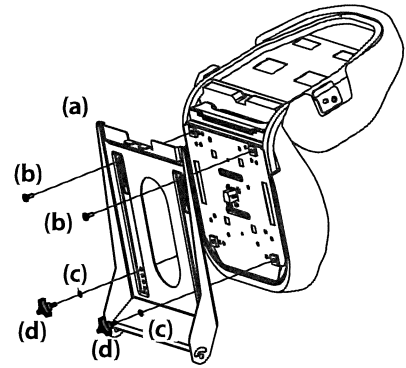

Figure 4
- a. For a Knob Adjust seat insert bolts (b) in the rear holes and lock washers (c) and knobs (d) in the front. Tighten securely. See Figure 4.